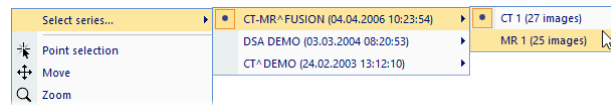

Figure 125 – Series selection using the view context menu
2. Right-click to display its context menu (see Figure 125).